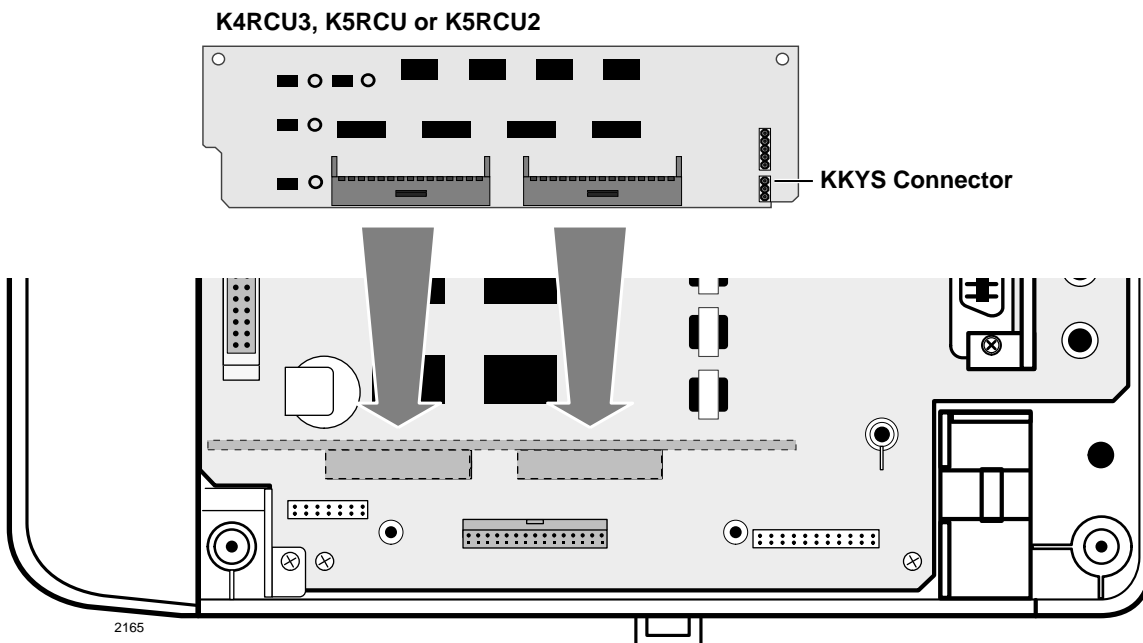

Figure 3-15 Auto Busy Redial/DTMF Receiver Board (K4RCU3, K5RCU or K5RCU2) Installation
3. Making sure that the component side of the K4RCU3, K5RCU or K5RCU2 is face down (toward the power supply), plug the K4RCU3, K5RCU P602A and P602B female connectors into the P2A and P2B (K4RCU3, K5RCU or K5RCU2) connectors on the motherboard. See Figure 3-15.